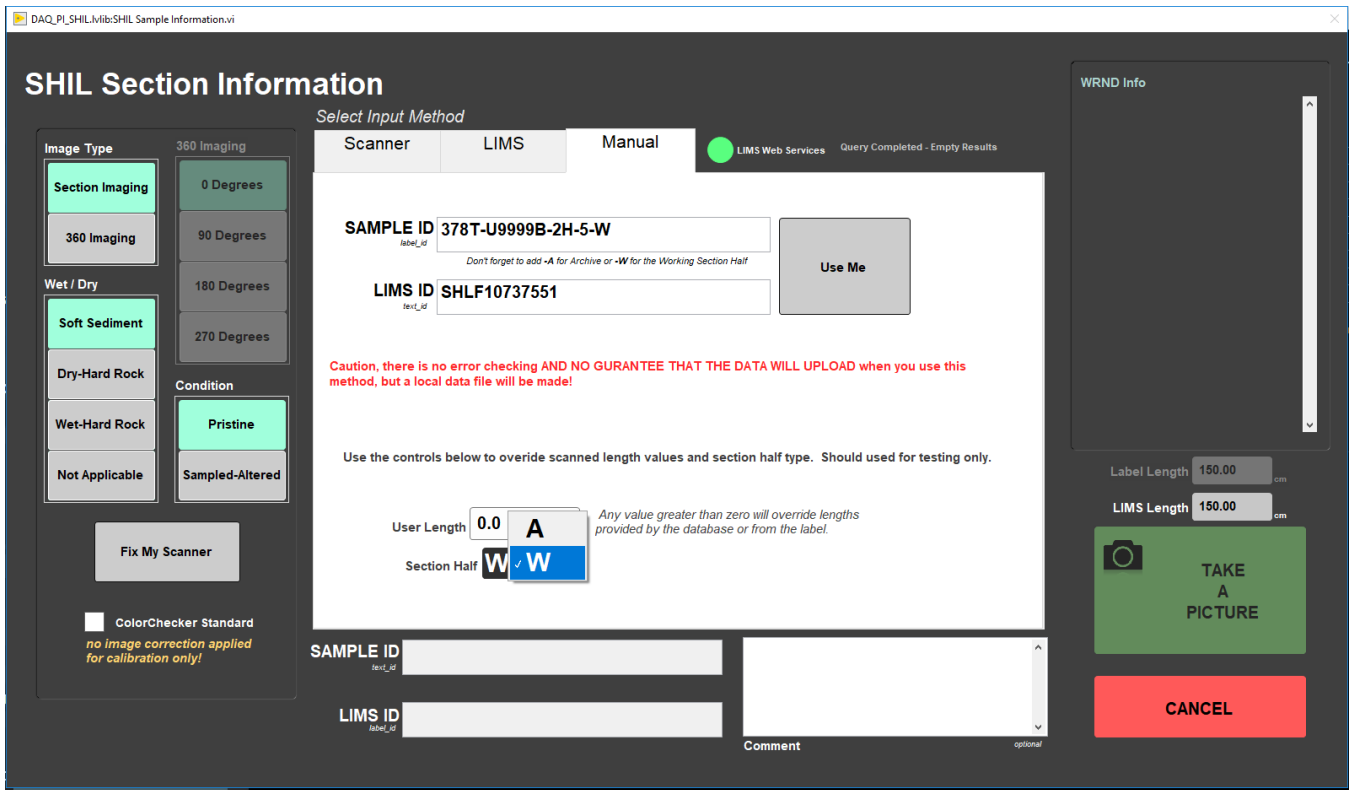

Figure 43. SHIL MANUAL Section Information window
4. There are three ways to enter sample information into IMS (Figure 43):
By default the instrument is set for imaging the archive half and will not allow you to scan a working label. If you want to take a picture of a **working half** you need to go to the **MANUAL** tab and select **W** (working) into the **Section Half** label (Figure 43). Once you have selected **W** (working), you will not be able to scan an archive half; in order to do that you need to go back into the **MANUAL** tab and re-select **A** (archive).